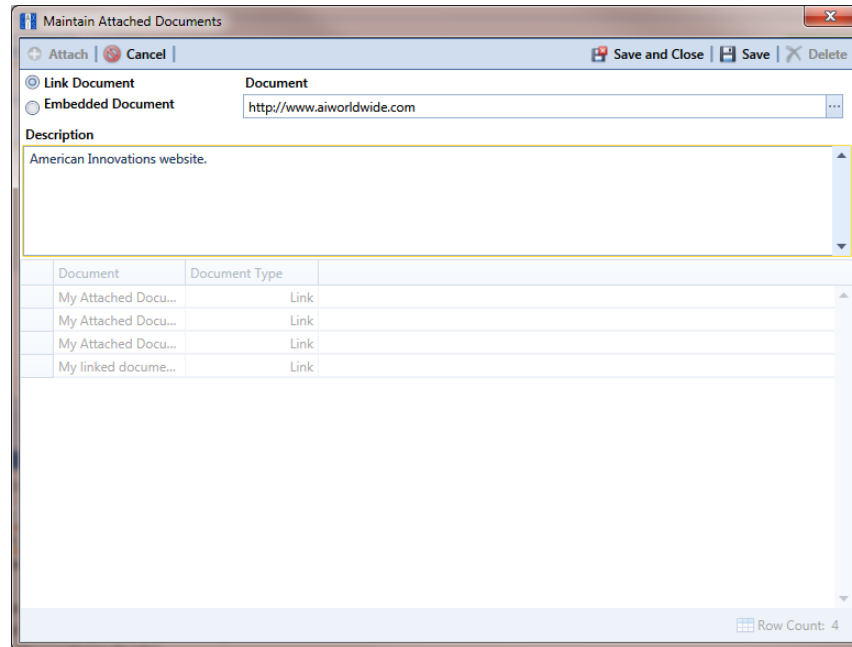

Figure 3-16. Maintain Attached Documents
- 8 If you selected *Link Document* in step 6 and want to add a link to a webpage on the Internet, follow these steps (Figure 3-16):